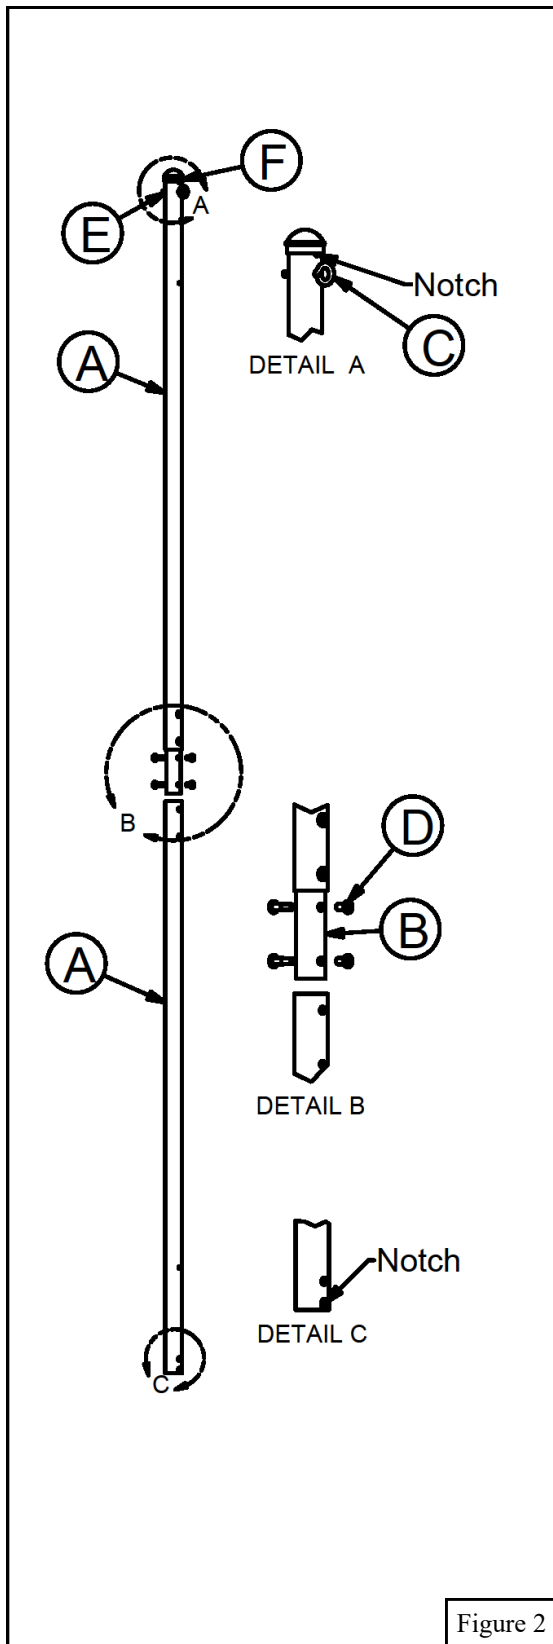

Figure 2
2. Use Connector Tube (B), four Barrel Nut assemblies from above and four Barrel Nuts (D) to assemble Tetherball Pole Sections (A). The ends of the Tetherball Pole Sections (A) with the notches go on the top and bottom end of the pole assembly. See Figure 2.
3. Insert the 5/16" Eye Bolt (C) into the hole just below the slot at the top of the pole assembly, using the 5/16" Locknut (E) to secure tightly. Install Pole Cap (F) on top of the pole assembly. See Figure 2.